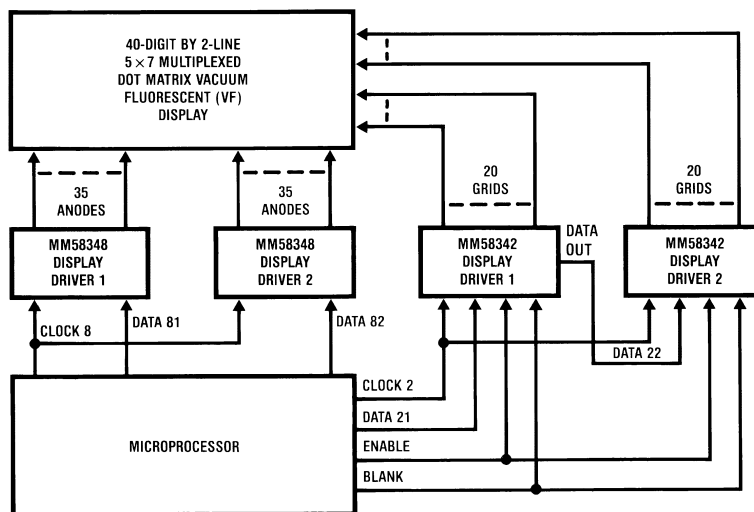

Figure 7. Microprocessor-Controlled Word Processor
Figure 7 shows a schematic diagram of a microprocessor-based system where the MM58342 is used to provide the grid drive for a 40-digit 2 line 5 x 7 multiplexed vacuum fluorescent (VF) display. The anode drive in this example is provided by another member of the high voltage display driver family, namely the MM58348, which does not require an extremely generated load signal.